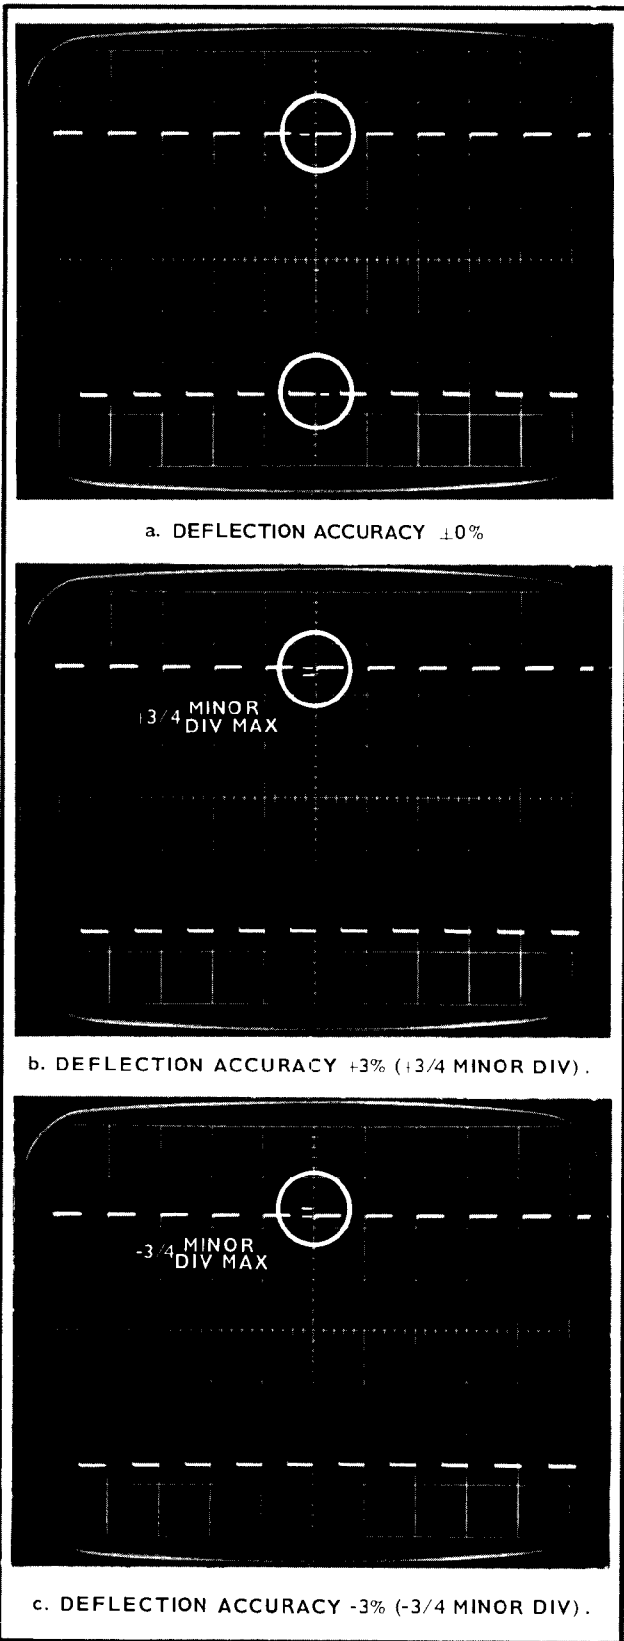

Fig. 6-9. Deflection accuracy limits between 10 mV/DIV and 50 V/DIV when VOLTS/DIV has the number 1 or 2 in it.
b. Use Table 6-2 and Figures 6-9, 6-10 and 6-11 to determine the deflection accuracy at each setting of the MANUAL VOLTS/DIV switch between 10 mV/DIV and 50 V/DIV. If any one switch setting causes an out-of-tolerance display, record the amount of error, continue to 50/DIV, then return to 10 mV/DIV and adjust the CAL control. Adjust the CAL control to reduce the one error, but not far enough to give any other switch setting an opposite out-of-tolerance error. The CAL control is correctly adjusted when all ranges are within 3%, and 10 mV/DIV is not necessarily at zero per cent error. If one switch position causes a plus error greater than +3% and another causes a minus error greater than -3%, record the error of all switch settings in order to determine which attenuator requires repair.
| MANUAL VOLTS/DIV Switch Setting | Standard Amplitude Calibrator AMPLITUDE Control | Vertical Deflection In Divisions | % Error, See Fig 6-9 thru Fig. 6-13 |